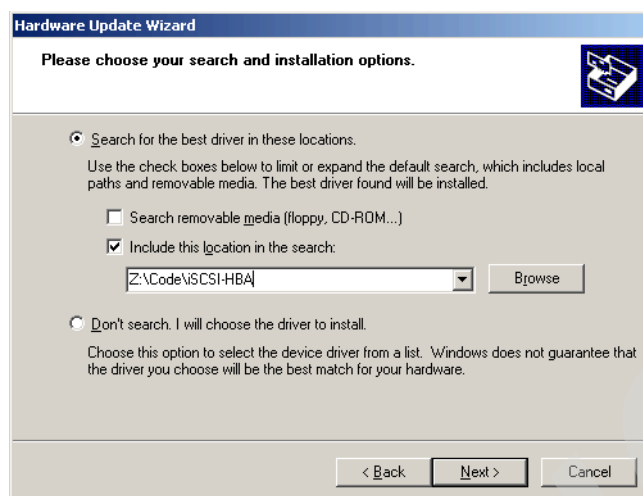

Figure 21-6 Hardware Update Wizard - Search and install options
4. Uncheck **Search removable media (floppy, CDROM...)** and check **Include this location in the search**. Enter the location where the driver was unpacked in the previous step. Click **Next**. See Figure 21-6.